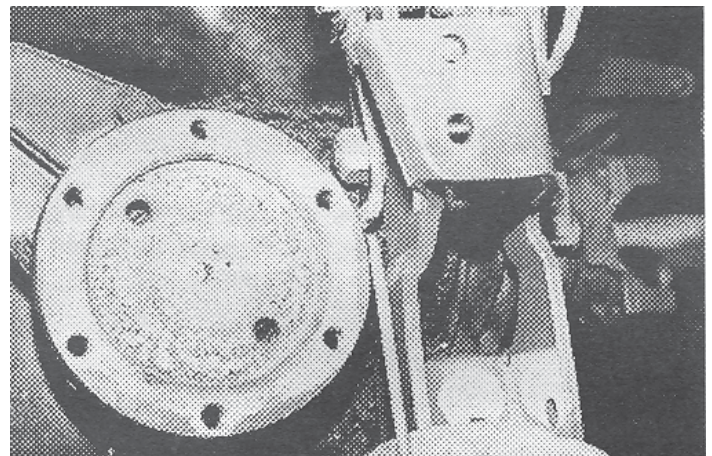
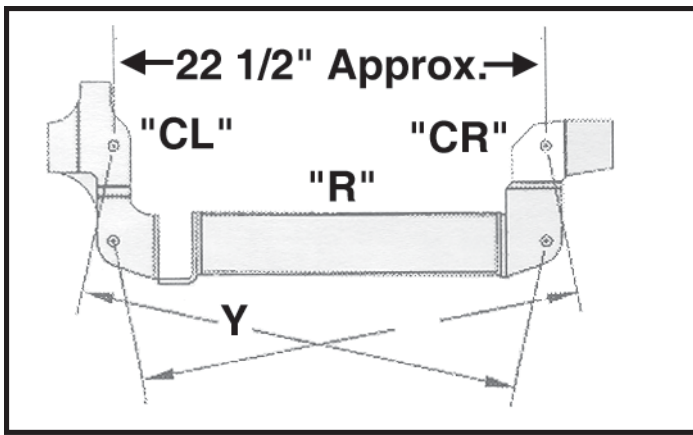

Fig. 29A
Fig. 29B
28. Check clearance between differential output flange and OE lower rear control arm receiver, PASS and DVR side. Minimum clearance 3/8". Dress receiver ear or tune to gain clearance. **Fig. 29A.** Make diagonal measurement on rear of system as shown. **Fig. 29B.** In the event that system fails to meet dimensional specification, locate interference and alleviate. Failure to meet this specification may result in the inability of the completed system to meet vehicle alignment specification. Check clearance between front differential and engine oil pan. It may be necessary to concave pan at PASS side axle tube flange to gain adequate clearance. A minimum clearance of 1/2 inch between differential flange and engine oil pan is required.